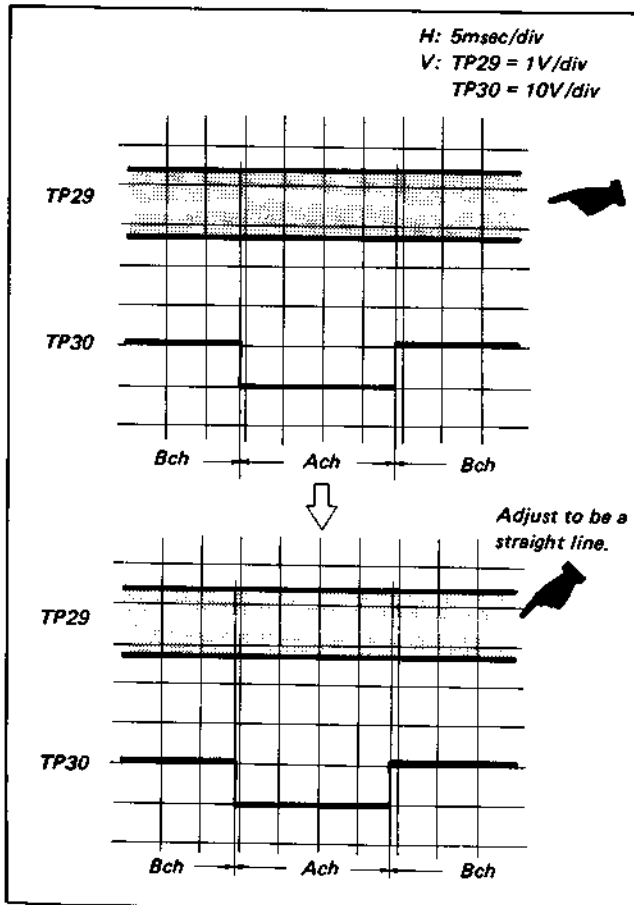

Fig. 4-25. AFC offset adjustment
- (1) Supply the VTR with the colour bar signal and set up the RECORD mode.
- (2) Connect the oscilloscope to TP29 (pin 5 of IC6). TRIG: EXT (TP30, RF SW PULSE)
- (3) Adjust RV18 so that the lock points of the A-CH and the B-CH are at the points shown in Fig. 4-25.